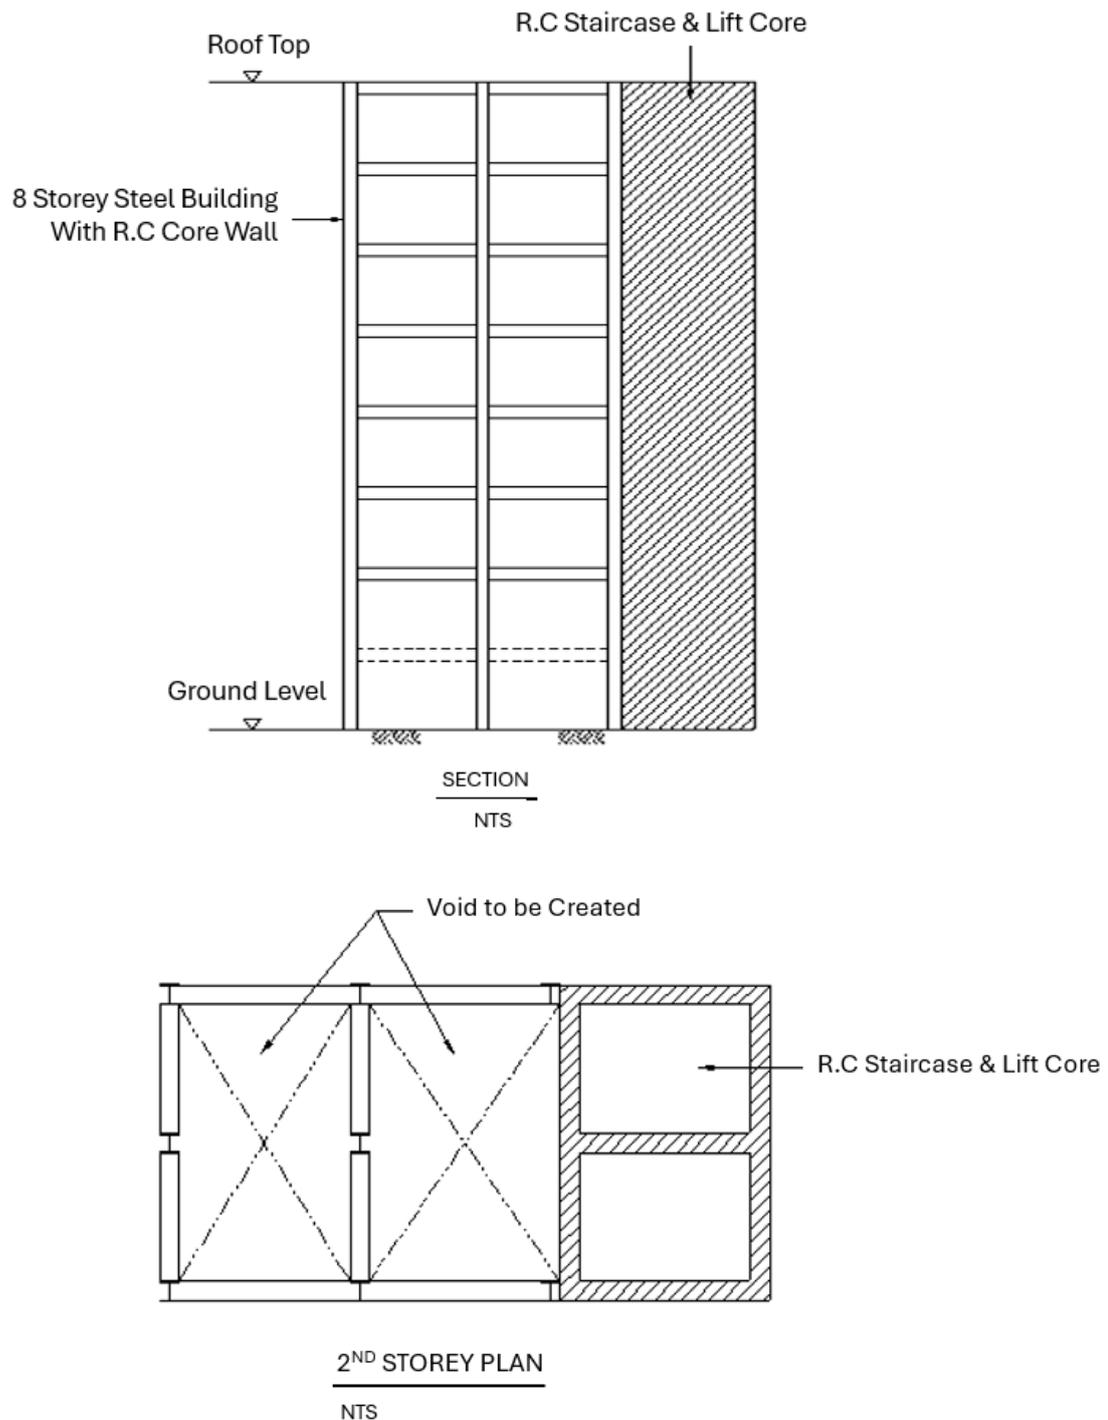

Figure Q3-2
- (b) The 2nd storey floor slabs of an 8 storey steel building linked to the lift and staircase RC wall is to be removed for more headroom (See Figure Q3-2).